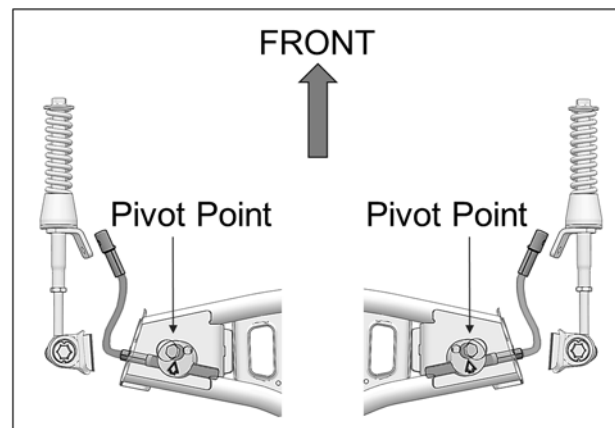

Fig. 20
13. Make sure aluminum disk pivot point is installed in front of steering limiter cable. See Fig. 20